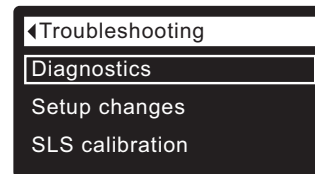

FIG. 101
2. To display the Diagnostics screen from any of the rolling status screens (when an error code is not displayed), press the SELECT (O) button to display the **Main menu**.
4. Press the SELECT (O) button to display the Advanced settings menu.
6. Press the SELECT (O) button to display the Troubleshooting menu (See Figure 101).
1. From any of the rolling status screens, press the SELECT (O) button to display the **Main menu**.
3. Press the SELECT (O) button to display the Advanced settings menu.
5. Press the SELECT (O) button to display the Troubleshooting menu (See Figure 101).
- **Cancel** will return to the Troubleshooting menu (Figure 101).
9. Press the SELECT (O) button.